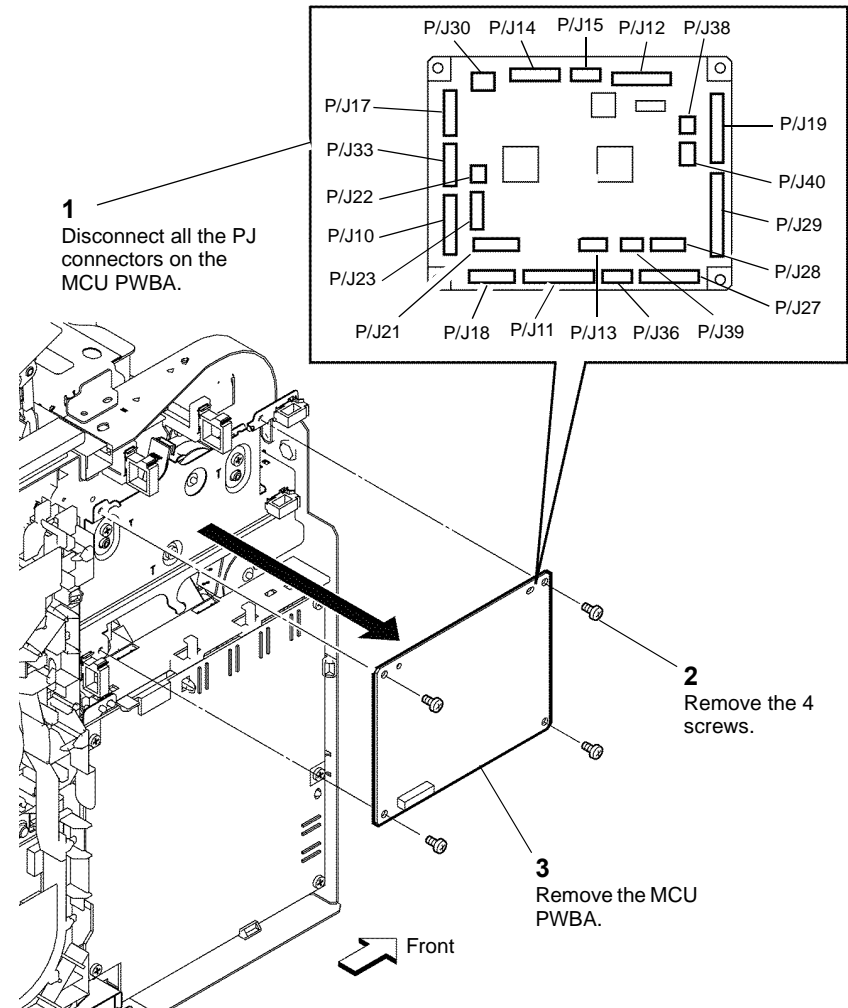

Figure 2 MCU PWBA
2. Remove the MCU PWBA, Figure 2.